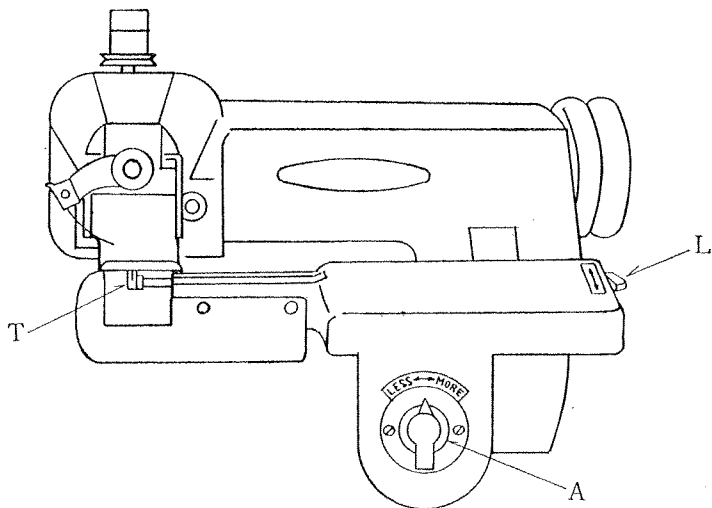

Fig. 4
A. While keeping knee lifter depressed, turn handwheel (away from operator) until the needle's eye is directly above the oscillating rib "T" mounted in the work arm. (Fig. 4, page 5).
C. If rib should cause needle to deflect upward, however little, turn adjustment knob "A" (Fig. 4) gradually counter-clockwise (direction "LESS") to eliminate contact.
knob "A" (Fig. 4) clockwise for more penetration and counterclockwise for less penetration. The dial surrounding the adjustment knob shows clearly the direction of turning to obtain the needed degree of needle penetration.
When this lever points toward the operator, as shown in Fig.4, the needle catches the material at each stitch. Pushing lever "L" to the rear of the machine so that it points toward the handwheel will activate the skip-stitch device whereby the needle will penetrate the material at every other stitch.